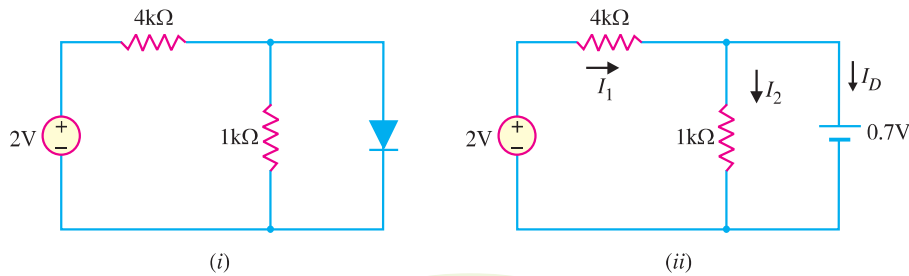
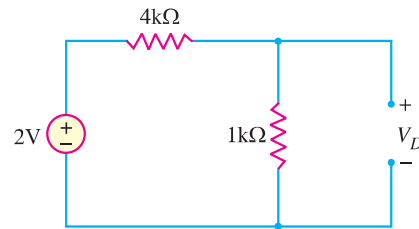

Fig. 6.18
Fig. 6.19
**Example 6.11.** Determine the state of diode for the circuit shown in Fig. 6.18 (i) and find  $I_D$  and  $V_D$ . Assume simplified model for the diode.
**Solution.** Let us assume that the diode is *ON*. Therefore, we can replace the diode with a 0.7V battery as shown in Fig. 6.18 (ii). Referring to Fig. 6.18 (ii), we have,
Since the diode current is negative, the diode must be **OFF** and the true value of diode current is  $I_D = 0 \text{ mA}$ . Our initial assumption was wrong. In order to analyse the circuit properly, we should replace the diode in Fig. 6.18 (i) with an open circuit as shown in Fig. 6.19. The voltage  $V_D$  across the diode is